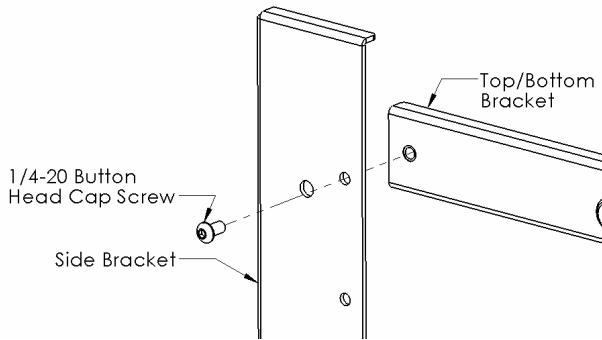
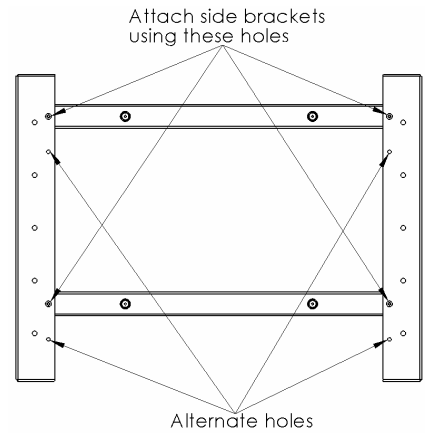

Figure 4
Figure 5
- Using four 1/4-20 x 1/2" button head cap screws, attach top and bottom to side brackets (see Figure 4 & Figure 5). If needed used alternate holes.